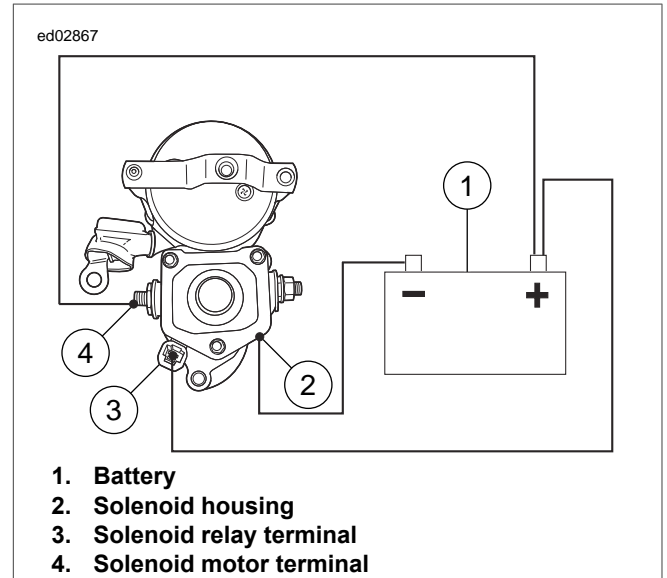

Figure 3-12. Hold-In Test
1. See Figure 3-12. With test leads still connected in the manner specified in the previous 3.5 TESTING STARTER ON BENCH, Solenoid Pull-In Test, disconnect solenoid motor terminal/battery negative test lead at negative battery post only. Reconnect loose end of this test lead to positive battery post instead.